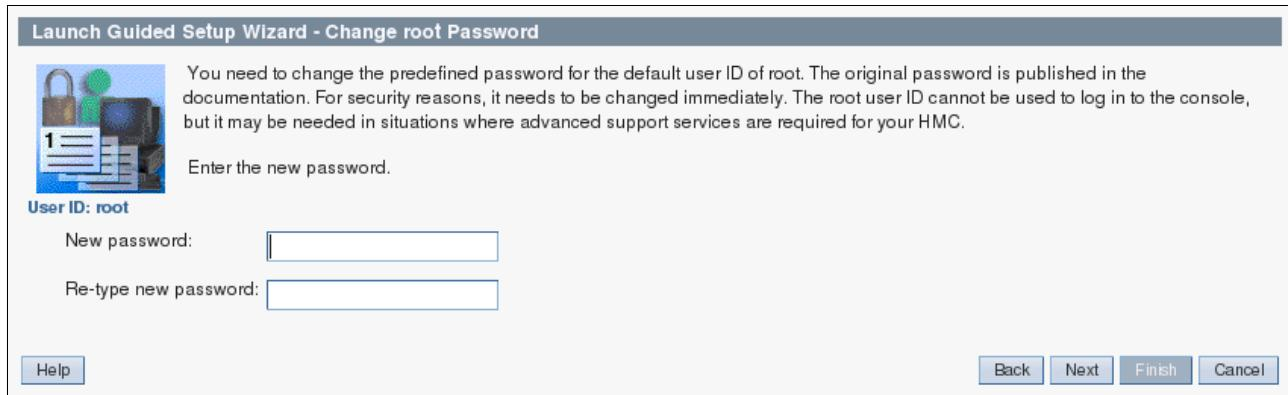

Figure 3-83 The root password change panel
12. Although you can change the root password in the next panel (Figure 3-83), do not change it now for this example. You can change the root password later. Click **Next**.